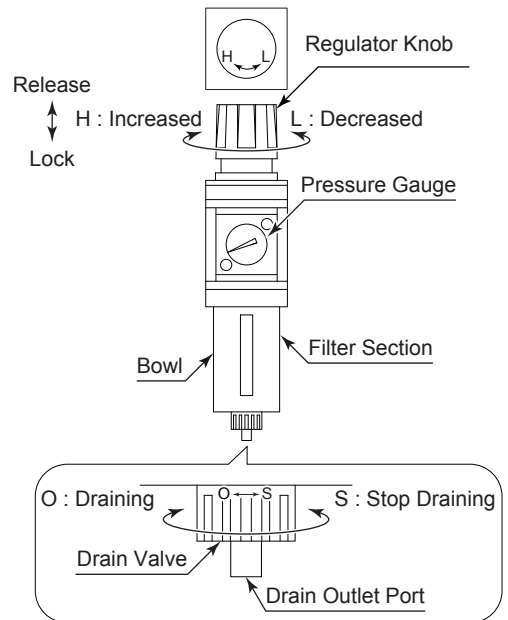

Fig. 2
8 - 1 Filter Regulator (Fig. 2)
(1) Regulator Section (Fig. 2)
(2) Filter Section (Fig. 2)
< Draining (Fig. 2) >